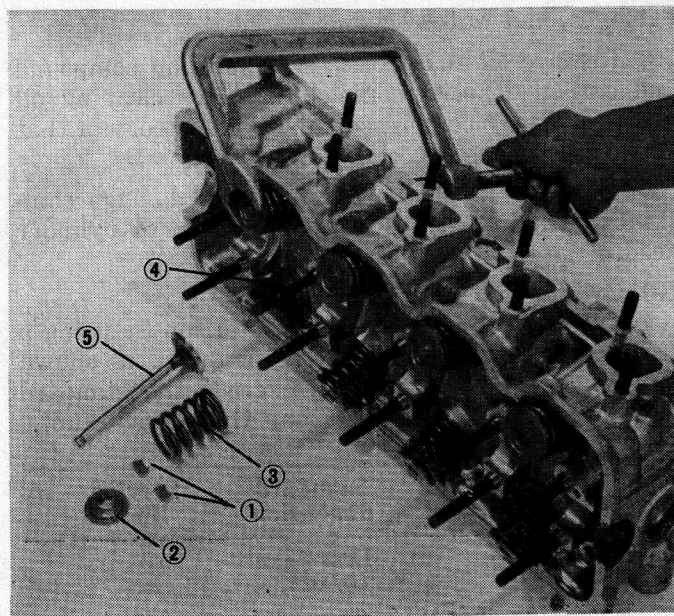

Fig. 42 Removing Valves
(5) Remove the camshaft.
(6) Using a valve lifter, remove the retainer lock (1). Then remove the spring retainer (2), valve spring (3), spring seat (4) and valve (5). (Fig. 42)